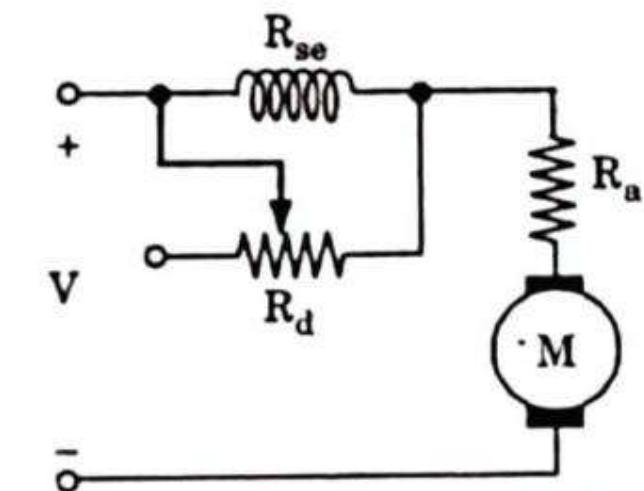

Fig. 3.11.2. Diverter in parallel with the series of DC motor.
- The variation of field current in a series motor is done by a variable resistor R_d is connected in parallel with the series field windings as shown in Fig. 3.11.2. The parallel resistor is called the diverter. A portion of the main current is diverted through R_d . Thus, the diverter reduces the current flowing through the field winding. This reduces the flux and increases the speed.